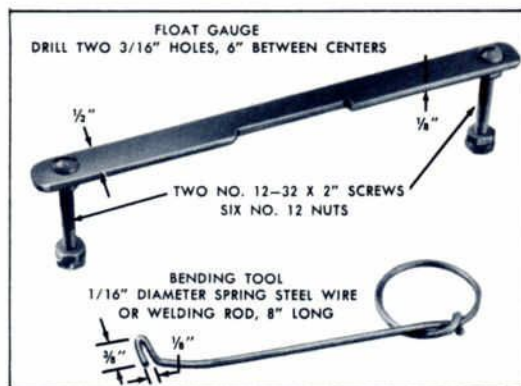

Fig. 18 Float Gauge and Bending Tool
There are two float adjustments, one for the main or primary valve and one for the auxiliary valve. The float setting, which controls the fuel level in the bowl, is critical because the fuel level affects calibration. The auxiliary fuel inlet valve is adjusted after the primary valve and float setting. You will need a float gauge and bending tool (Figure 18) to make the adjustments. You can fabricate these tools from material available locally.
1. Adjust both nuts on the gauge (Figure 18) to the float height specification which is  $\frac{25}{32}$  inch.